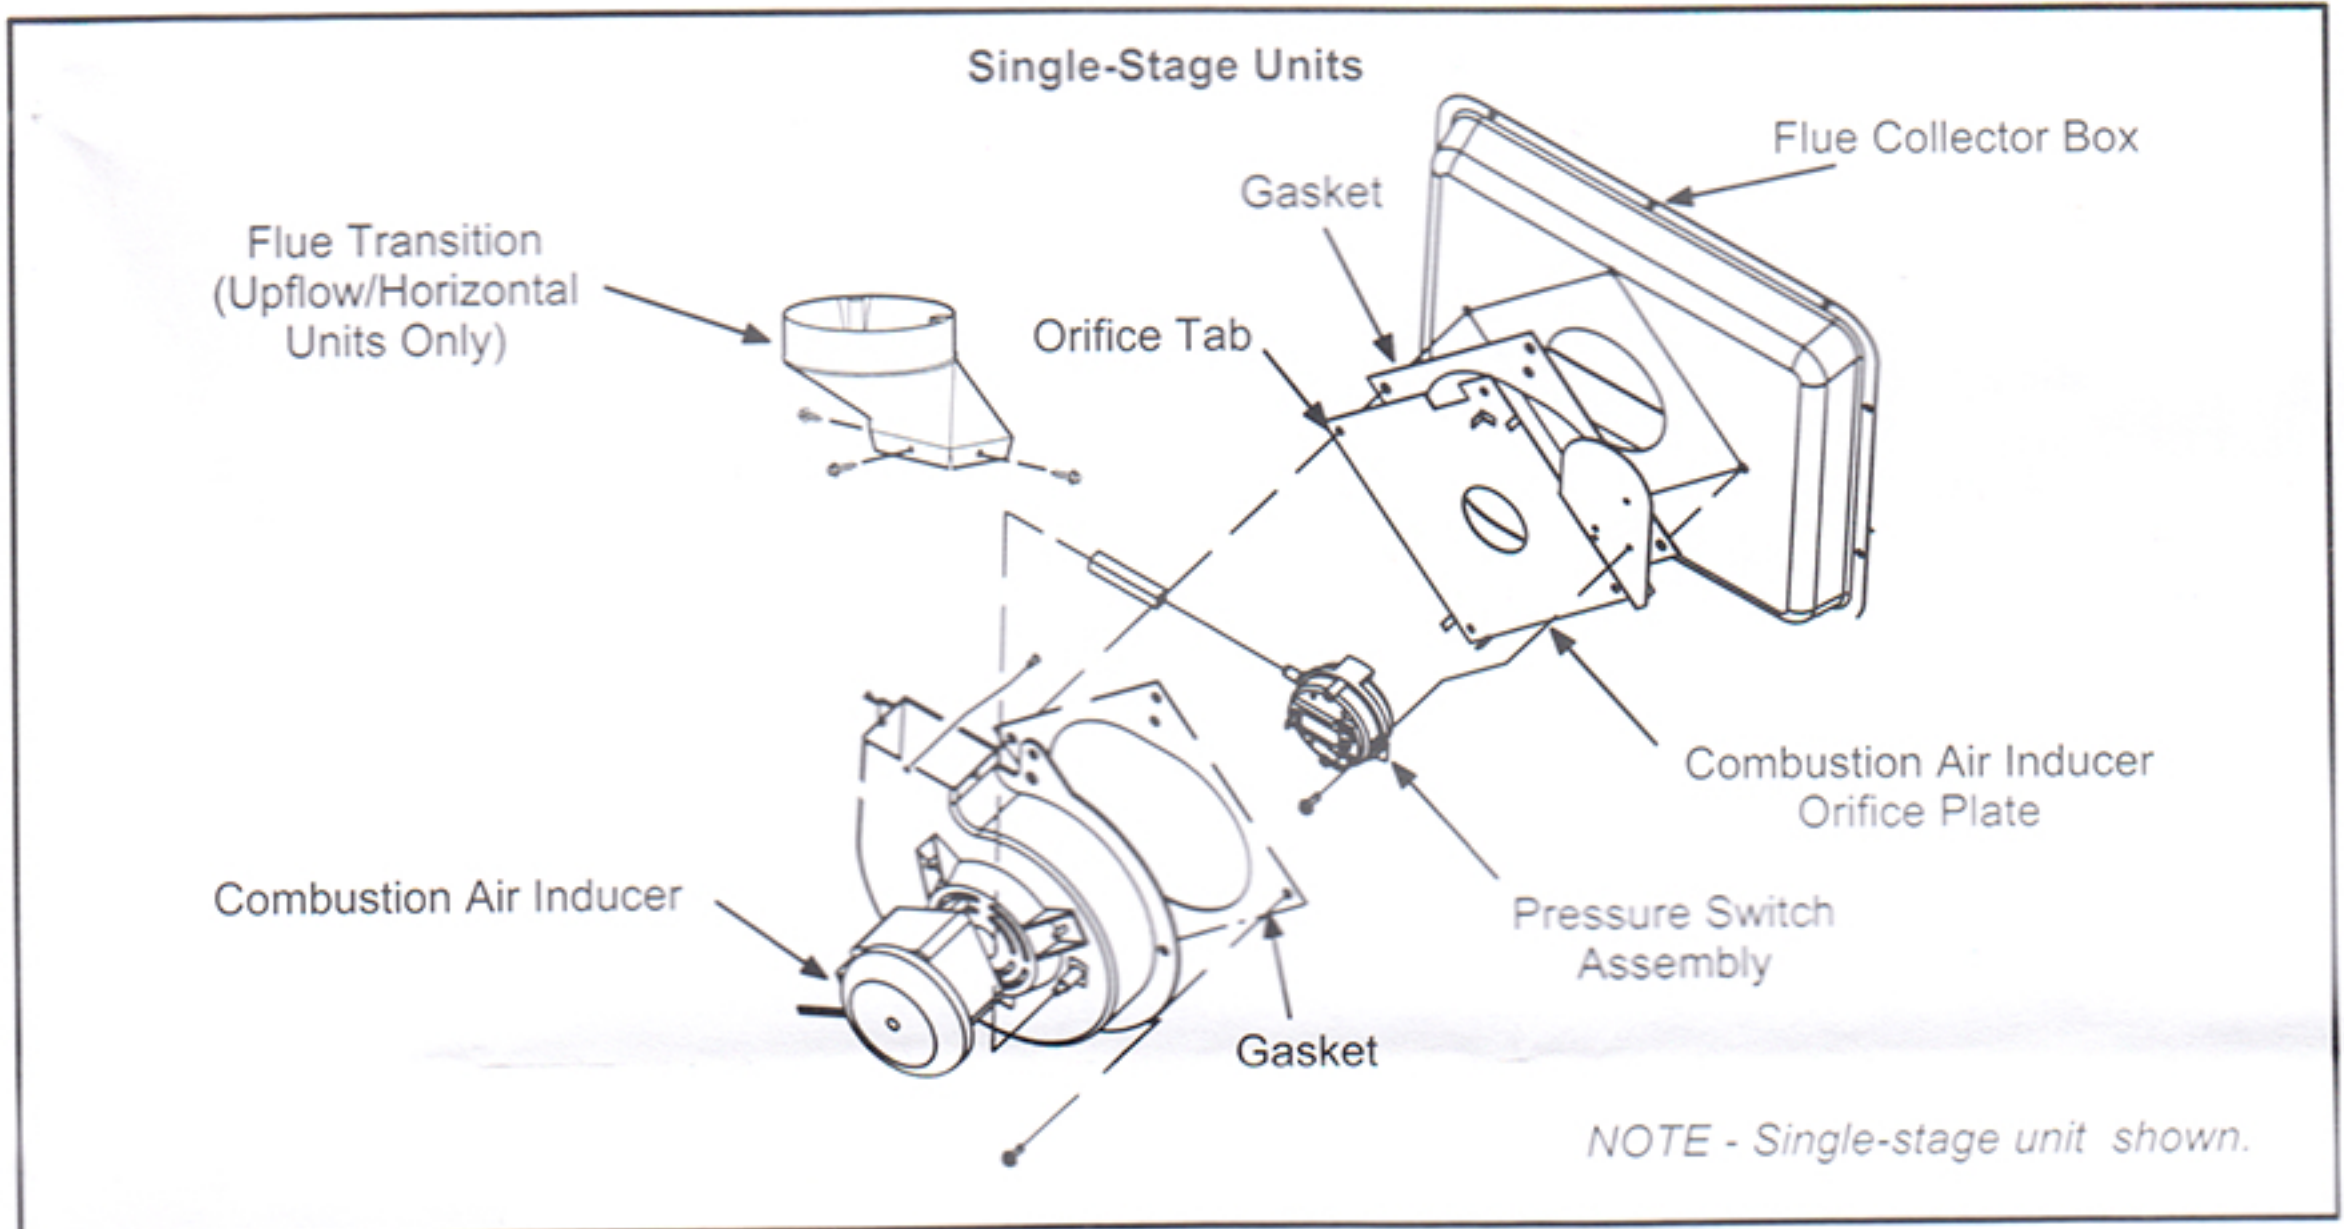
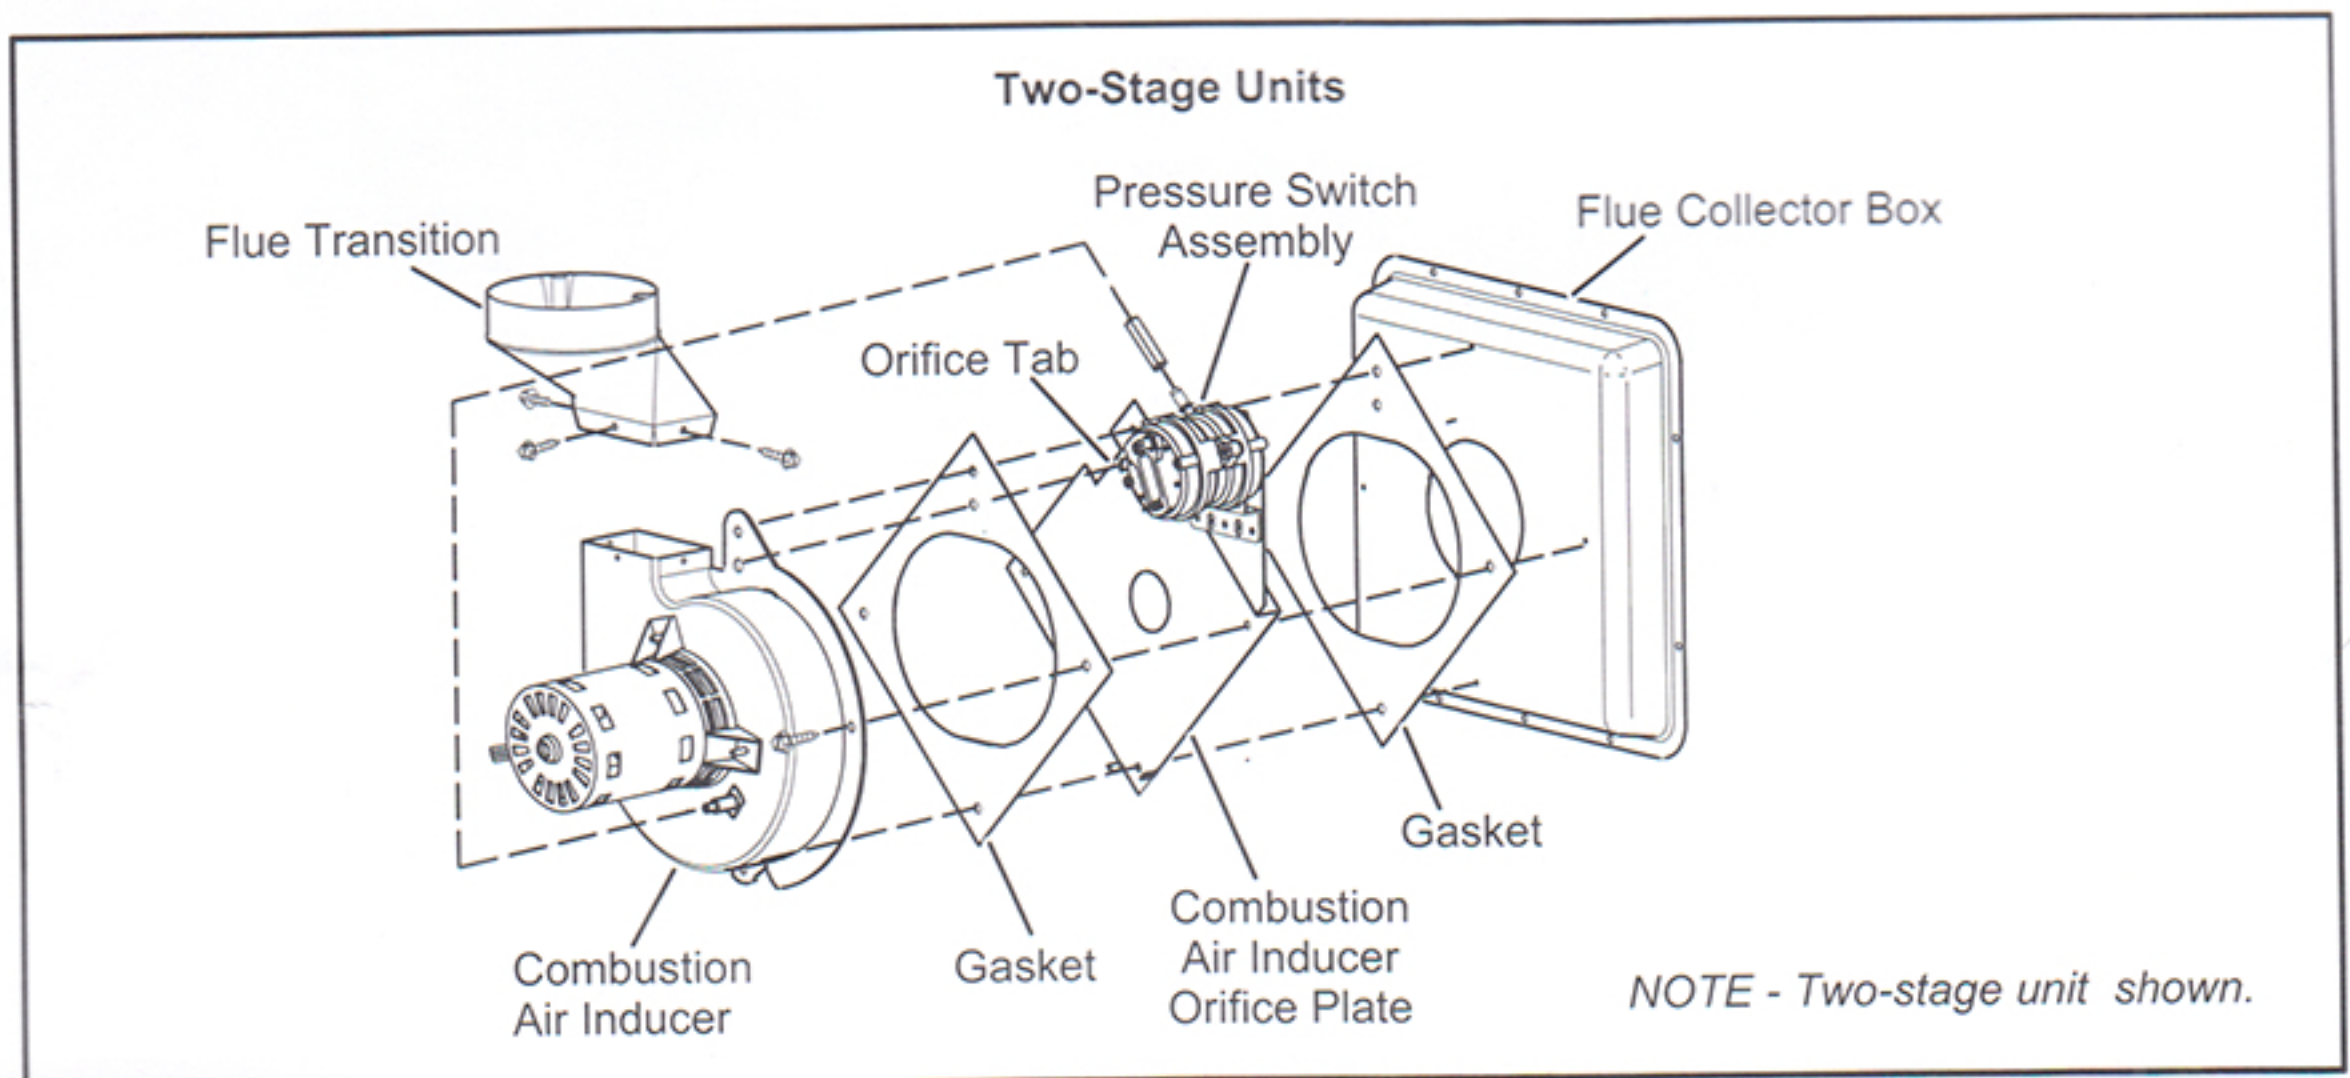

FIGURE 4
FIGURE 5
- 8 - Remove the four screws that secure the combustion air inducer assembly to the flue collector box. Remove the inducer assembly from the furnace. See figure 4 for single-stage units and figure 5 for two-stage units.
- 11 - Extend the alignment tab on the orifice plate through the replacement gasket and inducer housing. See figure 4 or figure 5.